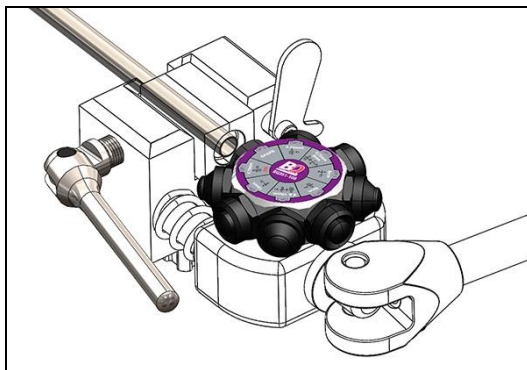

Figure 7
4. Rotate the punch turret to align the required Operation 2 punch with the tube (**Figure 7**).